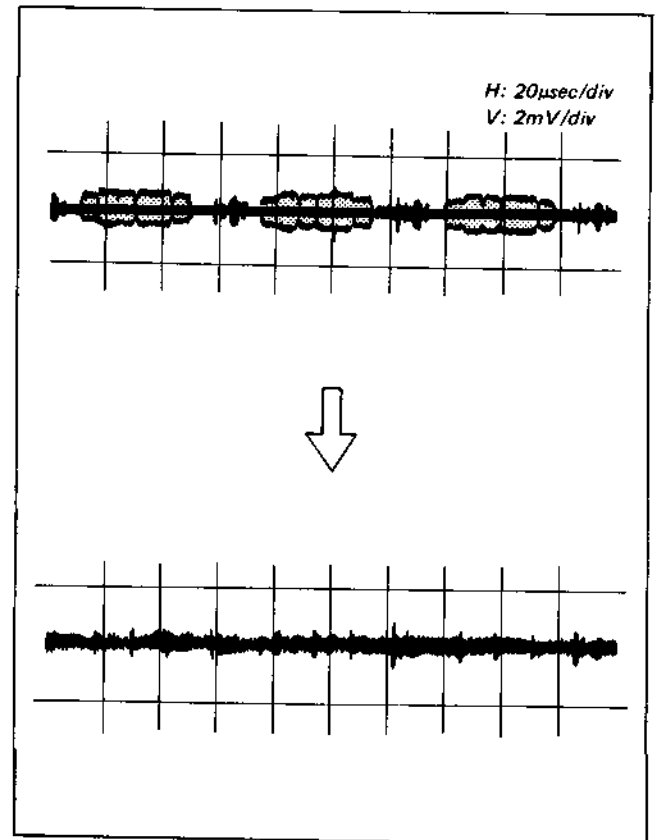

Fig. 4-27. Comb filter adjustment
- (3) Connect the oscilloscope to TP21 (junction of R147 and R148).
- (4) Adjust LV1 and RV15 alternately for minimum level of the chroma signal. (See Fig. 4-27).